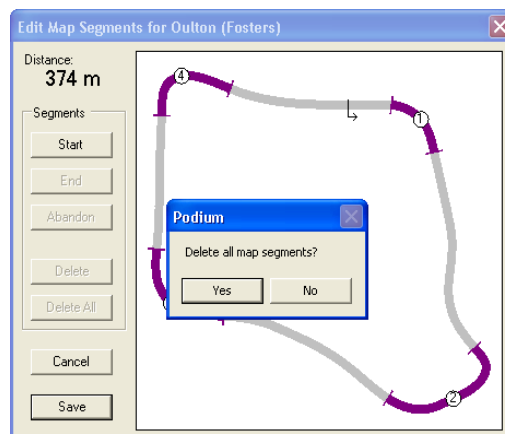

Figure 28 - Edit Map Segments Dialog (Delete All Segments)
3. Click **Delete All**. A message box is displayed which requests confirmation of the delete operation (see Figure 28).